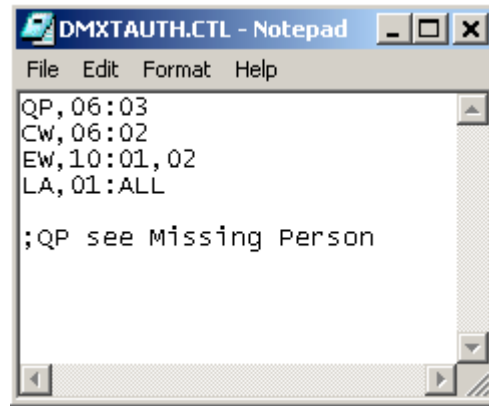

Figure 4.12 DMXTAUTH.CTL File
- In Figure 4.12, the QP transaction (Query Part) with a minimum data length of 6 characters may be run by all users configured with the “03” access level.
- The CW transaction (Cancel Warrant) with a minimum data length of six (6) characters may be run by all users configured with the “02” access level.
- The LA transaction (Locate Article) with a minimum data length of one (1) character may be run by all users.